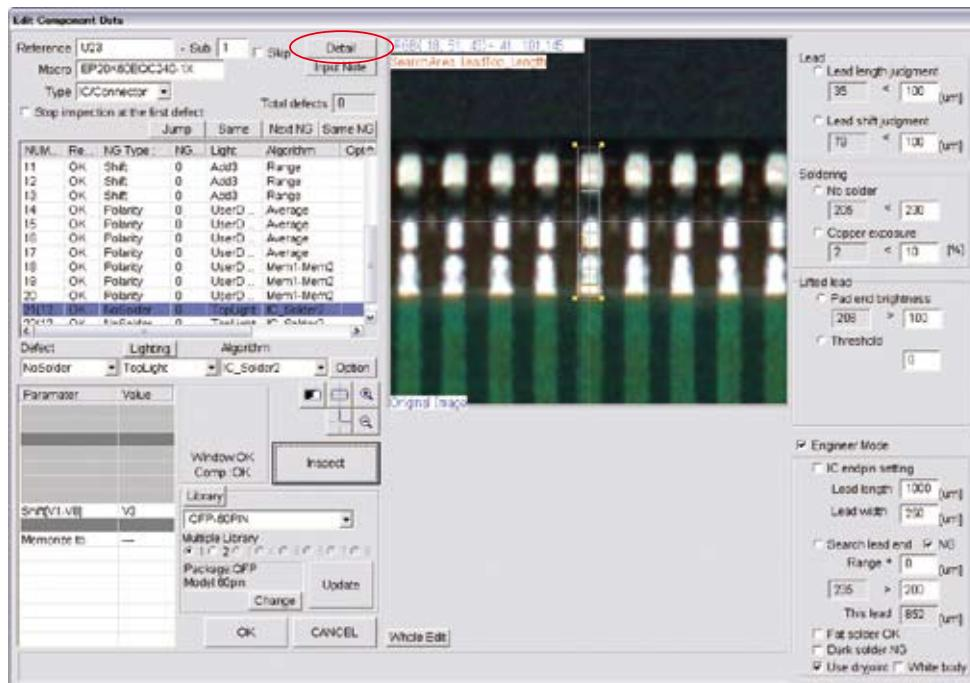
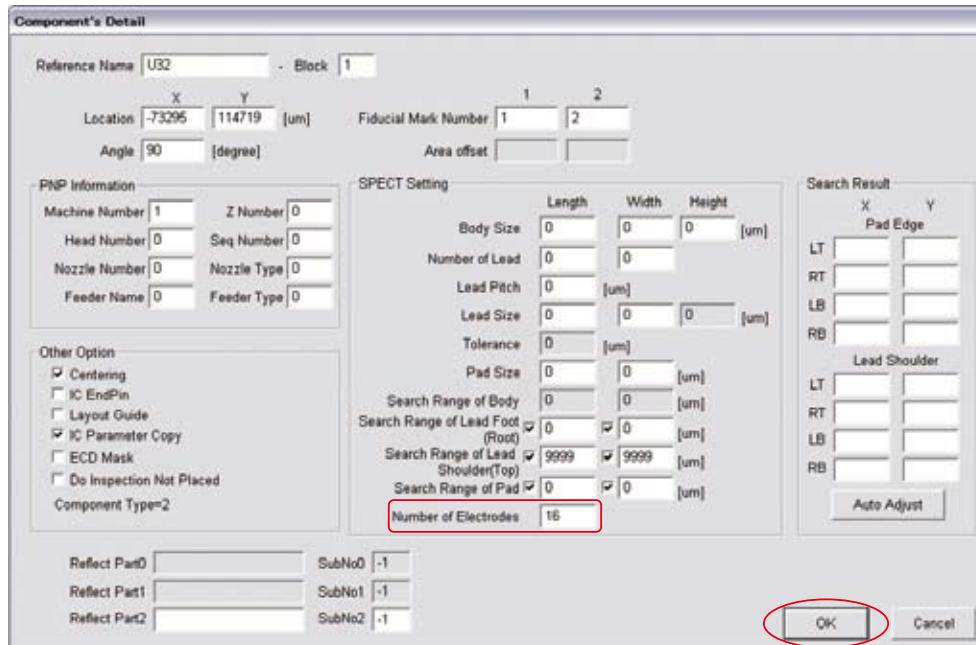

Figure 1-59 Detail
Figure 1-60 Number of Electrodes
Step15: If you change number of leads, press **Detail** shown in Figure 1-59. The window shown in Figure 1-60 appears.